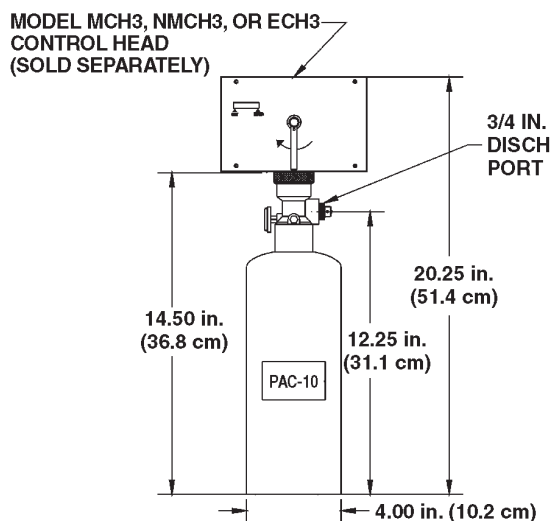

Figure 2-8. Model PAC-10 Pneumatic Actuating Cylinder.
The Model PAC-10 is a pneumatic actuating cylinder that can actuate a maximum of ten (10) agent cylinders simultaneously. The Model PAC-10 includes a DOT 4BA350 cylinder pressurized with dry nitrogen to 350 PSIG @ 70°., a brass valve with pressure gauge, and a wall mounting bracket. A Model MCH3, NMCH3 or ECH3 control head must be purchased separately and connected to the PAC-10 to open the valve. **See Figure 2-8.**